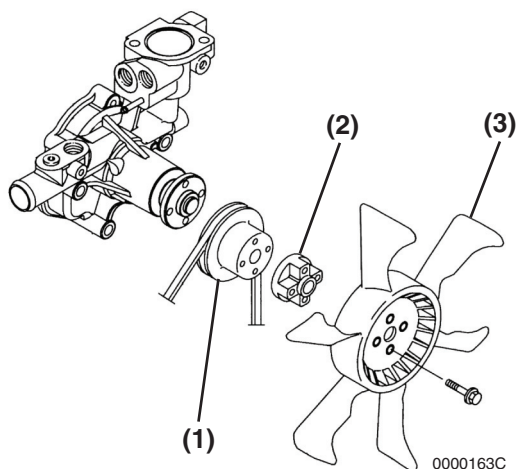

Figure 9-23
5. Reinstall the engine coolant pump V-pulley (**Figure 9-23, (1)**), spacer (**Figure 9-23, (2)**), engine cooling fan (**Figure 9-23, (3)**) and engine cooling fan guard (if equipped).